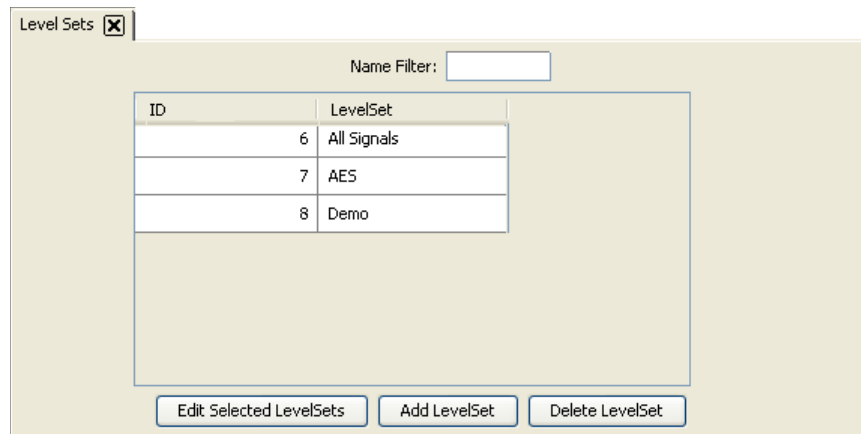

Figure 8-13. Level Sets Page
- 2 From the Navigation area, select the 'Configuration' pane and then 'Level Sets'. The 'Level Sets' page appears, as shown in Figure 8-13.